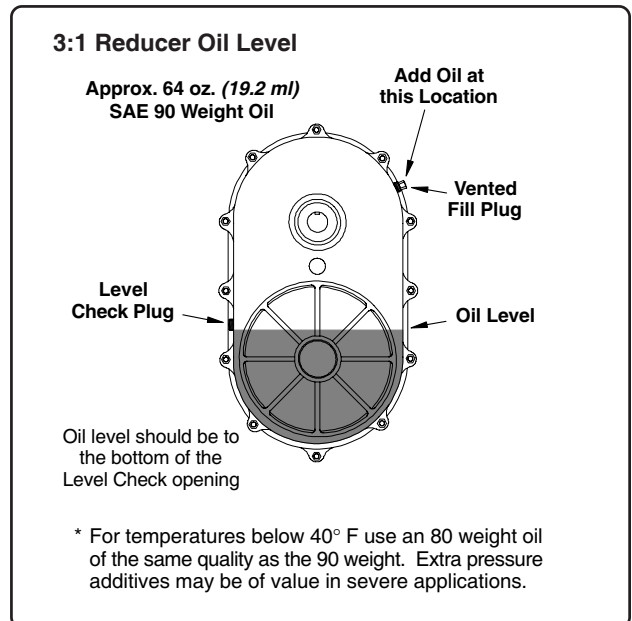

Fig. 5
1. With the gearbox in the upright position, remove the vented fill plug and the level check plug from the reducer housing (See Fig. 5). Clean the threads of the plug and apply teflon tape or a pipe sealant to the threads.